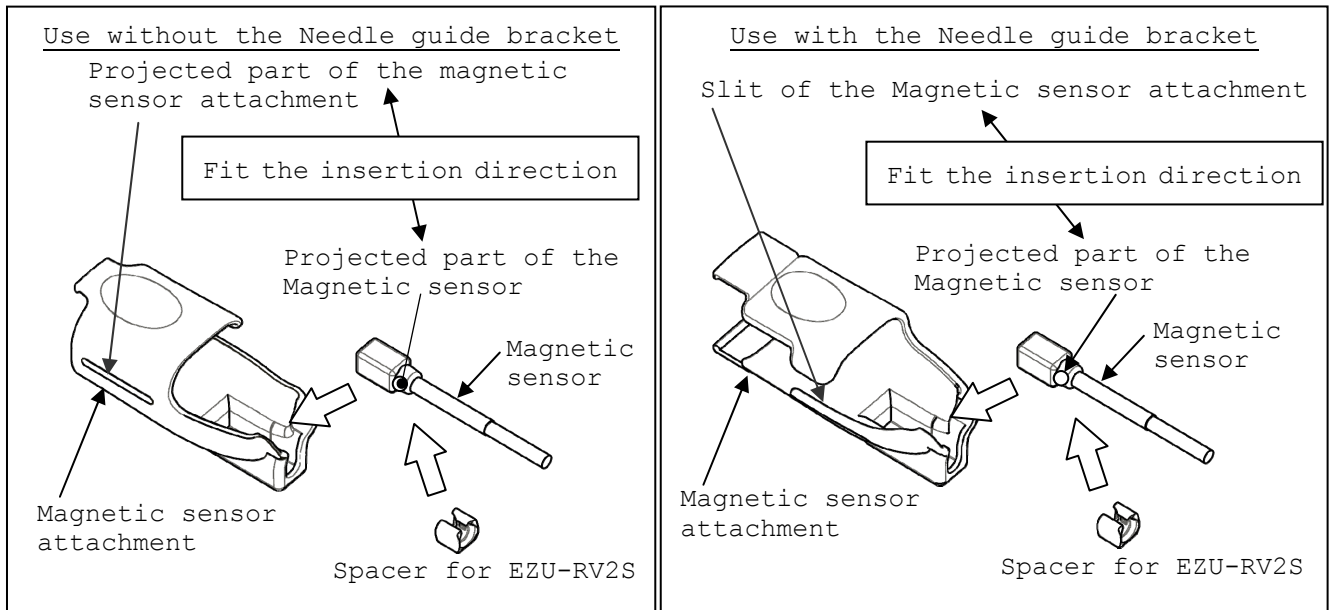

Fig.5 How to attach the magnetic sensor
- b) Insert the magnetic sensor into the Magnetic sensor attachment with correct direction as shown in Fig.5.